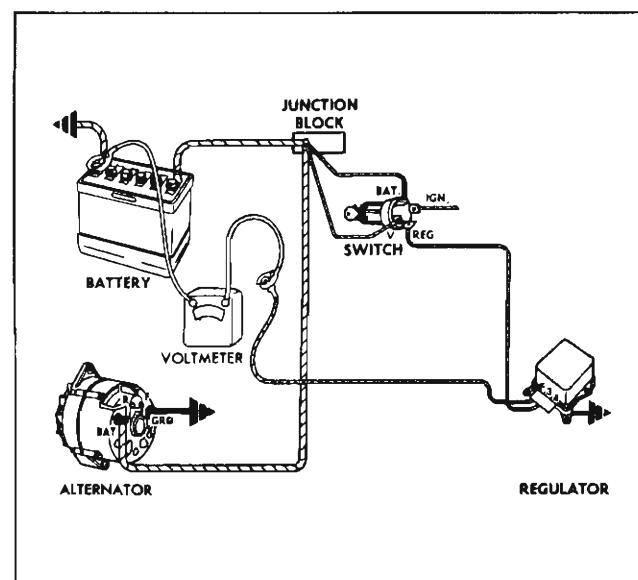

Fig. 11-27 Voltmeter in Circuit
- Disconnect field lead at alternator and connect voltmeter between this lead and ground terminal of battery (Fig. 11-27). With ignition off, voltage should be zero. If not, faulty ignition switch or wiring connection at switch is indicated. With ignition on, reading should equal battery voltage. If not, faulty ignition switch and/or open at connections are indicated. If field circuit checks out properly, proceed to step 7.